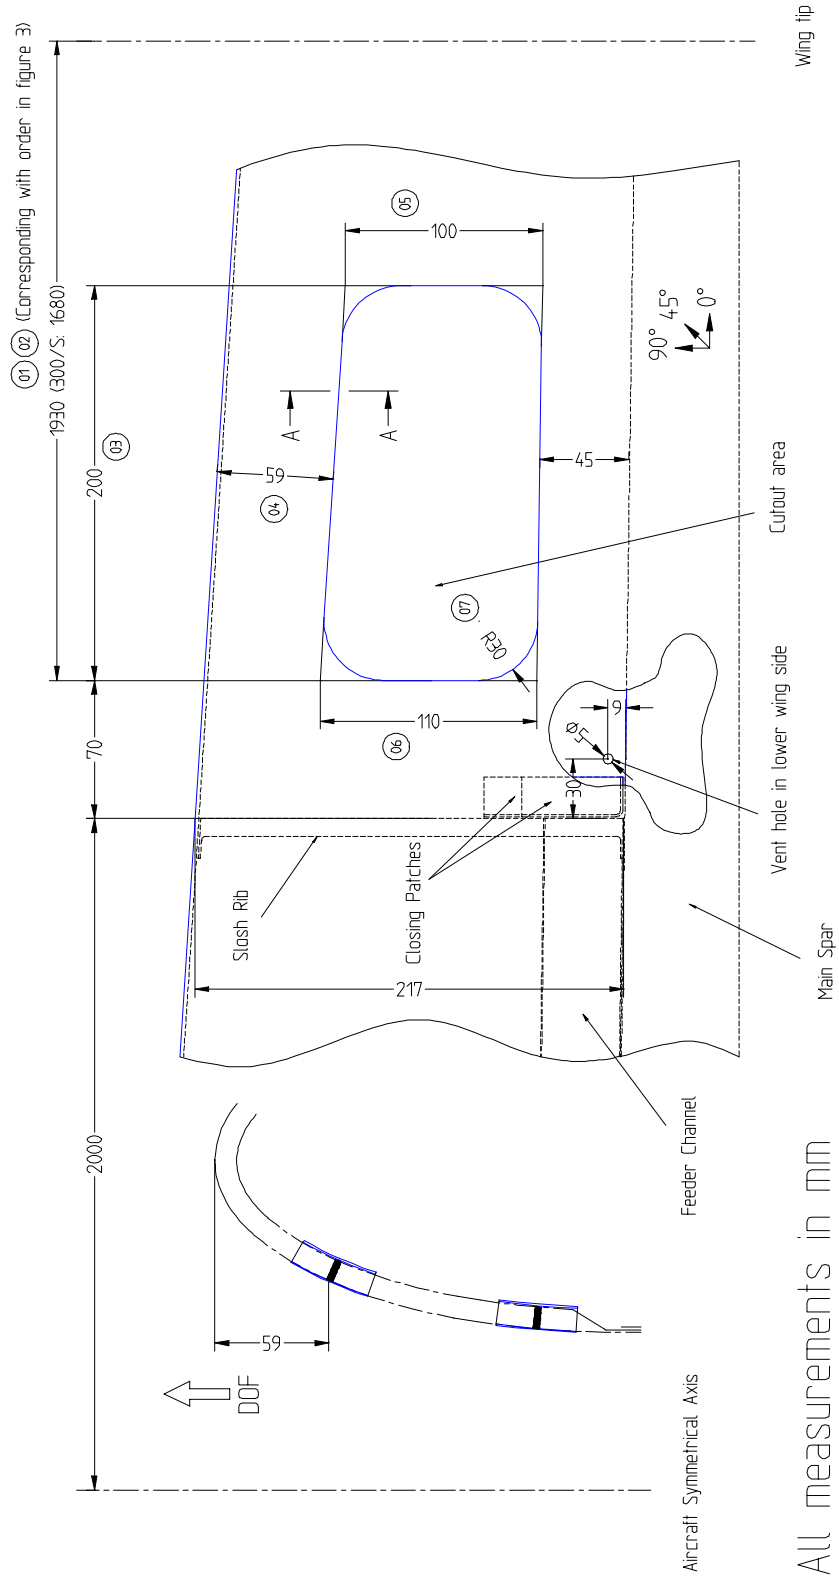

Figure 2: Long range tank repair cutout.
8. Mark out the cutout area on the top side of the wing. A drawing with dimensions is given in figure 2 and a proposed measuring procedure is given in figure 3.
12. Remove peel ply from the two closing patches and apply ample LJF (Le Joint Francais) PR 1422 B (NA) two-part polysulfide liquid polymer paste on the flanges and on the complete backside of both patches (picture 6).
15. Drill a vent hole (Ø5mm) at the location as depicted in Figure 2 (the hole is best drilled from inside the tank). In case the hole went through part of the honeycomb core, fill the hole with a mixture of resin and cotton flocks (weight ratio 100:25) to close off the core and drill the hole again later.